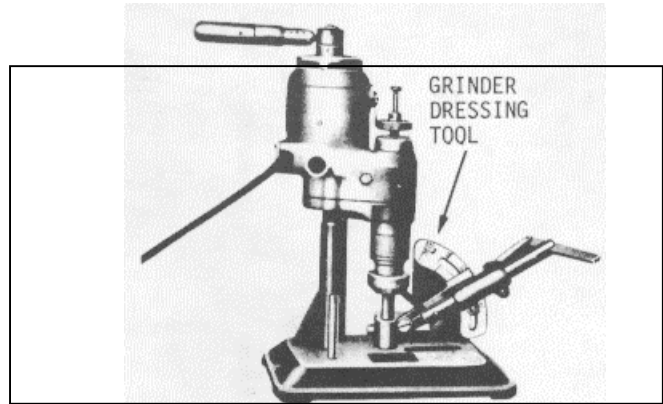

Fig. 13
- (4) When occasion requires, the grinding wheel may be dressed to maintain the correct seat angle with the dressing tool provided with the grinder set (Fig. 13). Grinding will reduce the thickness of the valve seat insert and cause the valve to recede into the cylinder head. If, after several grinding operations, the valve recedes beyond these limits, replace the valve seat insert.